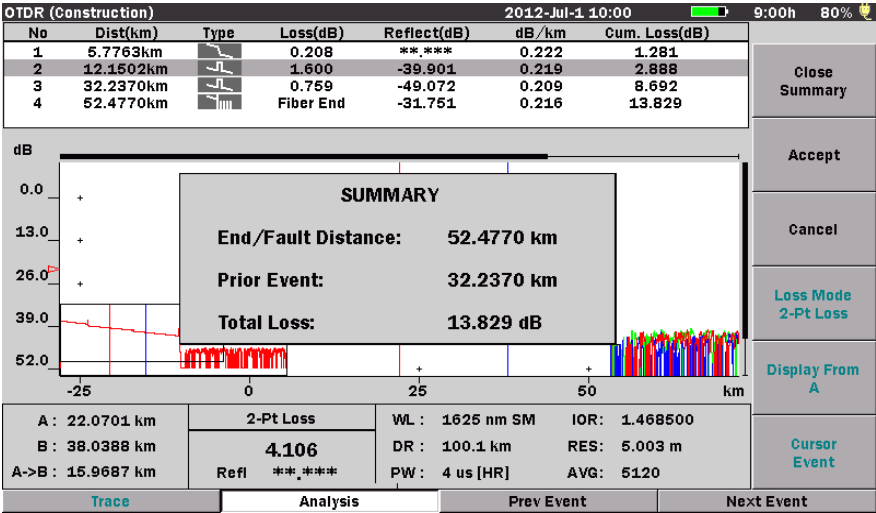

Figure 6-25: OTDR (Construction) Summary screen
10. At the conclusion of the data collection and analysis, the OTDR (Construction) Summary screen appears (see Figure 6-25 on page 6-63).